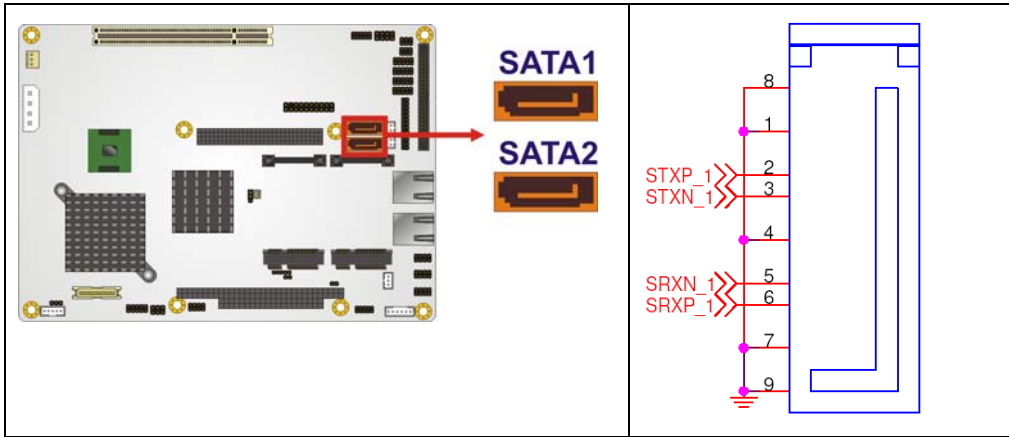

Figure 4-18: SATA Drive Connector Locations
- CN Location:** See Figure 4-18